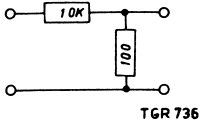

Fig. 25
- With a signal generator, apply a 1 kc/s signal (via a circuit as is shown in Fig. 25), so that the voltage on MP1-MP2 is 15 mV. The voltage supplied by the signal generator should then be 175 mV, \pm 2 dB.
- With a signal generator, apply a 1 kc/s signal (via a circuit as is shown in Fig. 25) so that the voltage on MP1-MP2 is 15 mV. The voltage supplied by the signal generator should then be 22 mV, \pm 2 dB.
The frequencies to be measured should be measured at MP1-MP2 with a voltage of 75 mV. Measure via a circuit as shown in Fig. 25.